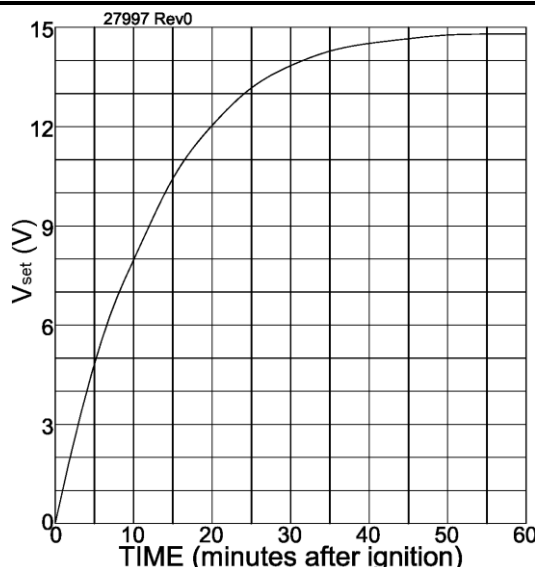

Figure 20 –  $V_{set}$  vs Time After Ignition, Example
3. Connect a voltmeter between terminals 2 (+) and 4 (-). This is the measured  $V_{set}$  and should tend towards the required  $V_{set}$  (determined in step 1). It will climb as shown in Figure 20.